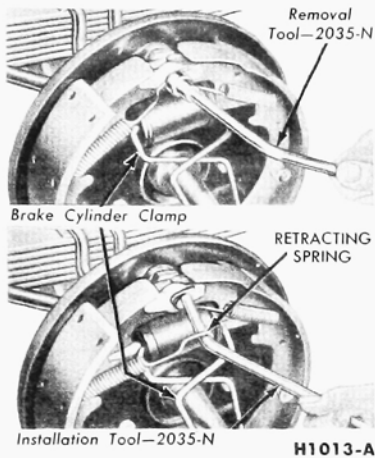

FIG. 7—Retracting Spring Removal and Installation
2. Clamp the brake cylinder boots against the ends of the cylinder, and remove the brake shoe retracting springs from both shoes (Fig. 7).
5. Install the brake shoe retracting springs on both shoes (Fig. 7), being careful not to bend the hooks or to stretch the springs beyond the attaching points. **The primary shoe spring must be installed first.**
4. Install the four retracting springs with the tool shown in Fig. 7.